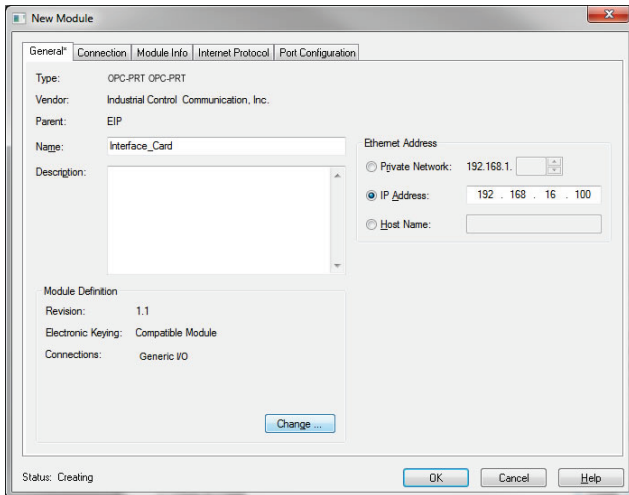

Figure 46: AOP Interface Card Module Properties
- 12) The "New Module" properties dialog box will open as shown in Figure 46.